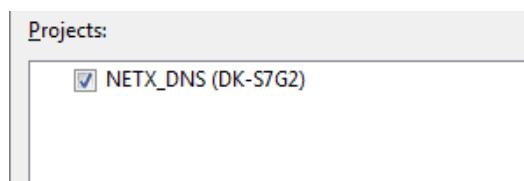

Figure 2.8 Import Existing Project dialog 2
12. Select the Project to import from the list of Projects (Figure 2.8).